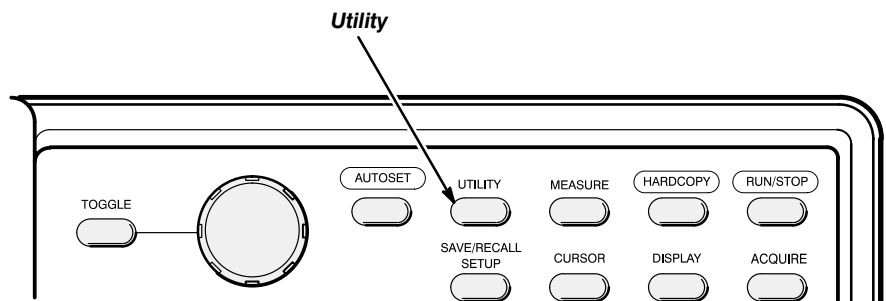

Figure 3-27: The UTILITY Button
1. Press the **UTILITY** button, shown in Figure 3-27.